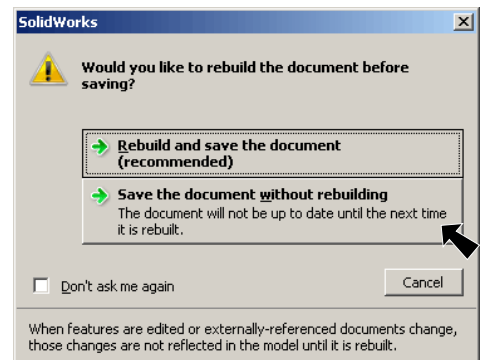

Fig. 44
Step 8. Click **Save the Document without rebuilding**, **Fig. 44**.